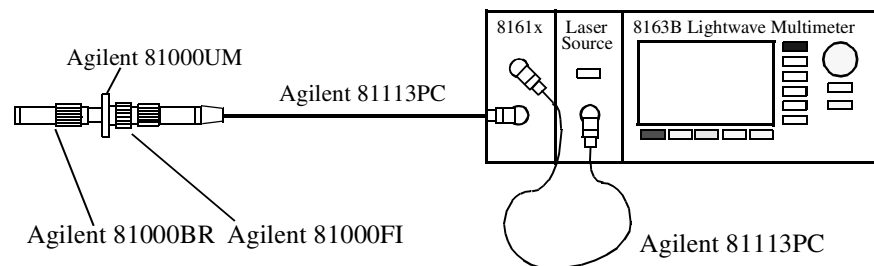

Figure 90 Reflectance Calibration - External Source
- 1 Making sure all the connectors are clean, set up the instrument as shown in Figure 90 if you are using an External Source.